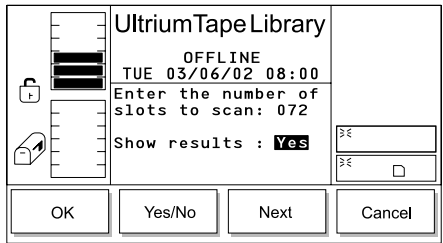

Figure 156. Confirm Dialog
5. To specify the quantity of slots to inventory, press the button below the **Up** or **Down** softkey to increase or decrease the value in the field. The maximum number of slots that can be inventoried is 72. Press the button below the **Next** softkey. The Confirm Dialog displays (see Figure 156 on page 136).